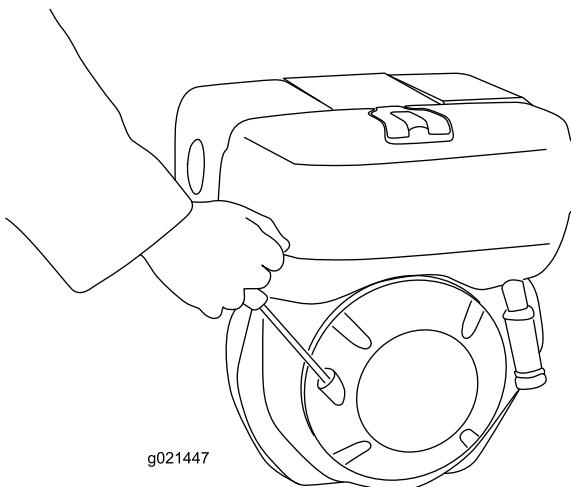

Figure 12
- 2. Slowly pull the recoil-start handle until you encounter a slight resistance (Figure 12).